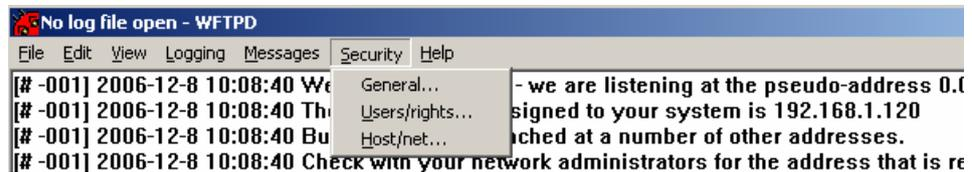

Figure 1 WFTPD startup
1. Install WFTPD in PC. Load WFTPD; shown in figure 1: